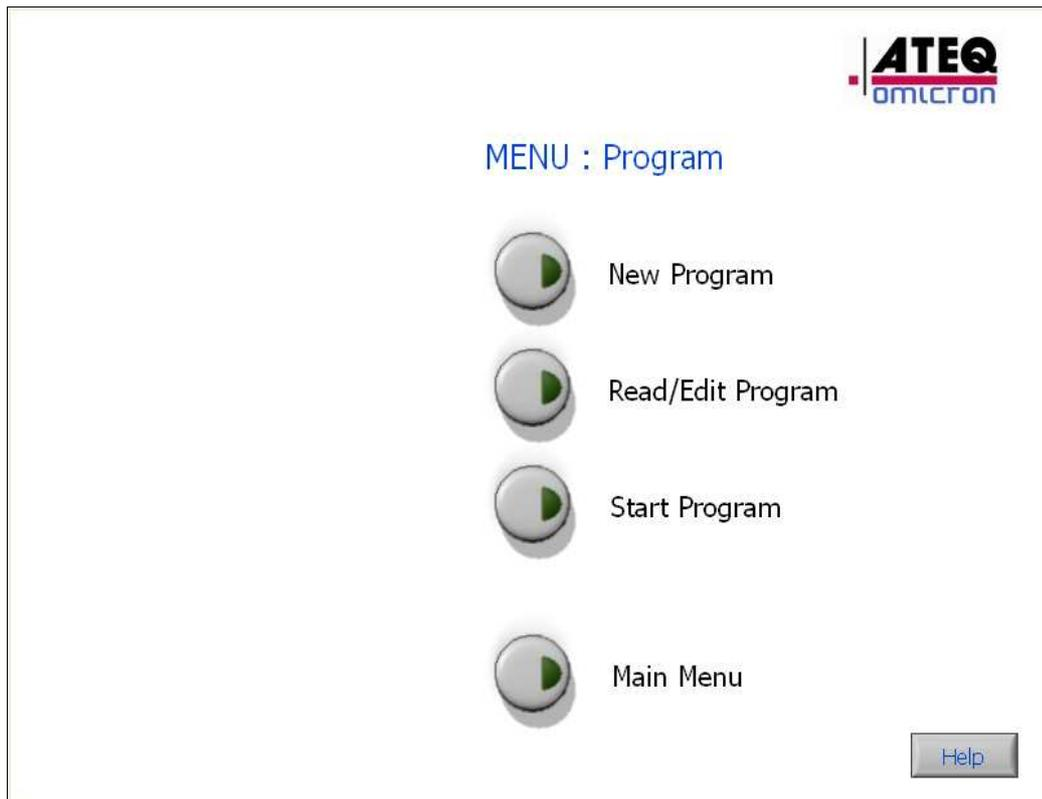

Figure 16
- Click on "Read/Edit Program" on the Automatic Program menu (Figure 16),
- Click on "Start Program" (Figure 16) to access screen shown on Figure 23